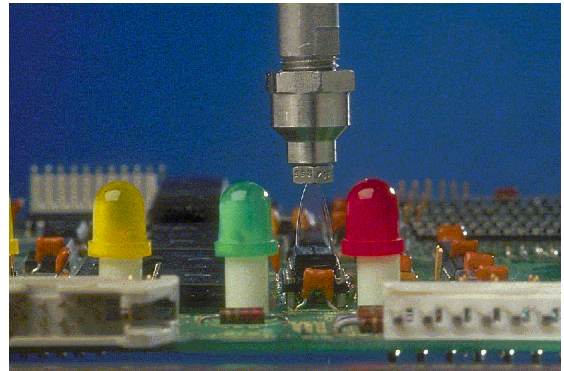

**Figure 2. In-Line Conformal Coating System**
Selective conformal coating systems consist of a workcell, curing module, and possibly board handling equipment (Figure 2). The product coating takes place in the workcell. The workcell can be an in-line system with a conveyor that moves boards in and out or a stand-alone system, where boards are inserted and removed manually. It consists of a software-controlled robot, coating area, and fluid system. The operator programs the coating routine into the system computer, where multiple programs are stored for the different products. In a stand-alone system the work area is typically a tooling plate that holds the board in place. The work area in the in-line system uses a pin or clamp on the conveyor to stop the board at a desired location for coating. The fluid system is pressurized and controlled to attain a desired flow rate. A fluid system typically consists of a pressure pot, fluid filter, and fluid regulator. Some systems use a recirculating, temperature-controlled fluid system. The curing module depends on the coating material. The various forms of cure are heat (infrared or convection), ultraviolet (UV), and humidity. The curing module is in the form of an oven with an integral conveyor for in-line systems. If two sides of the board need to be coated in an in-line system, a board flipper may be used to invert the board.